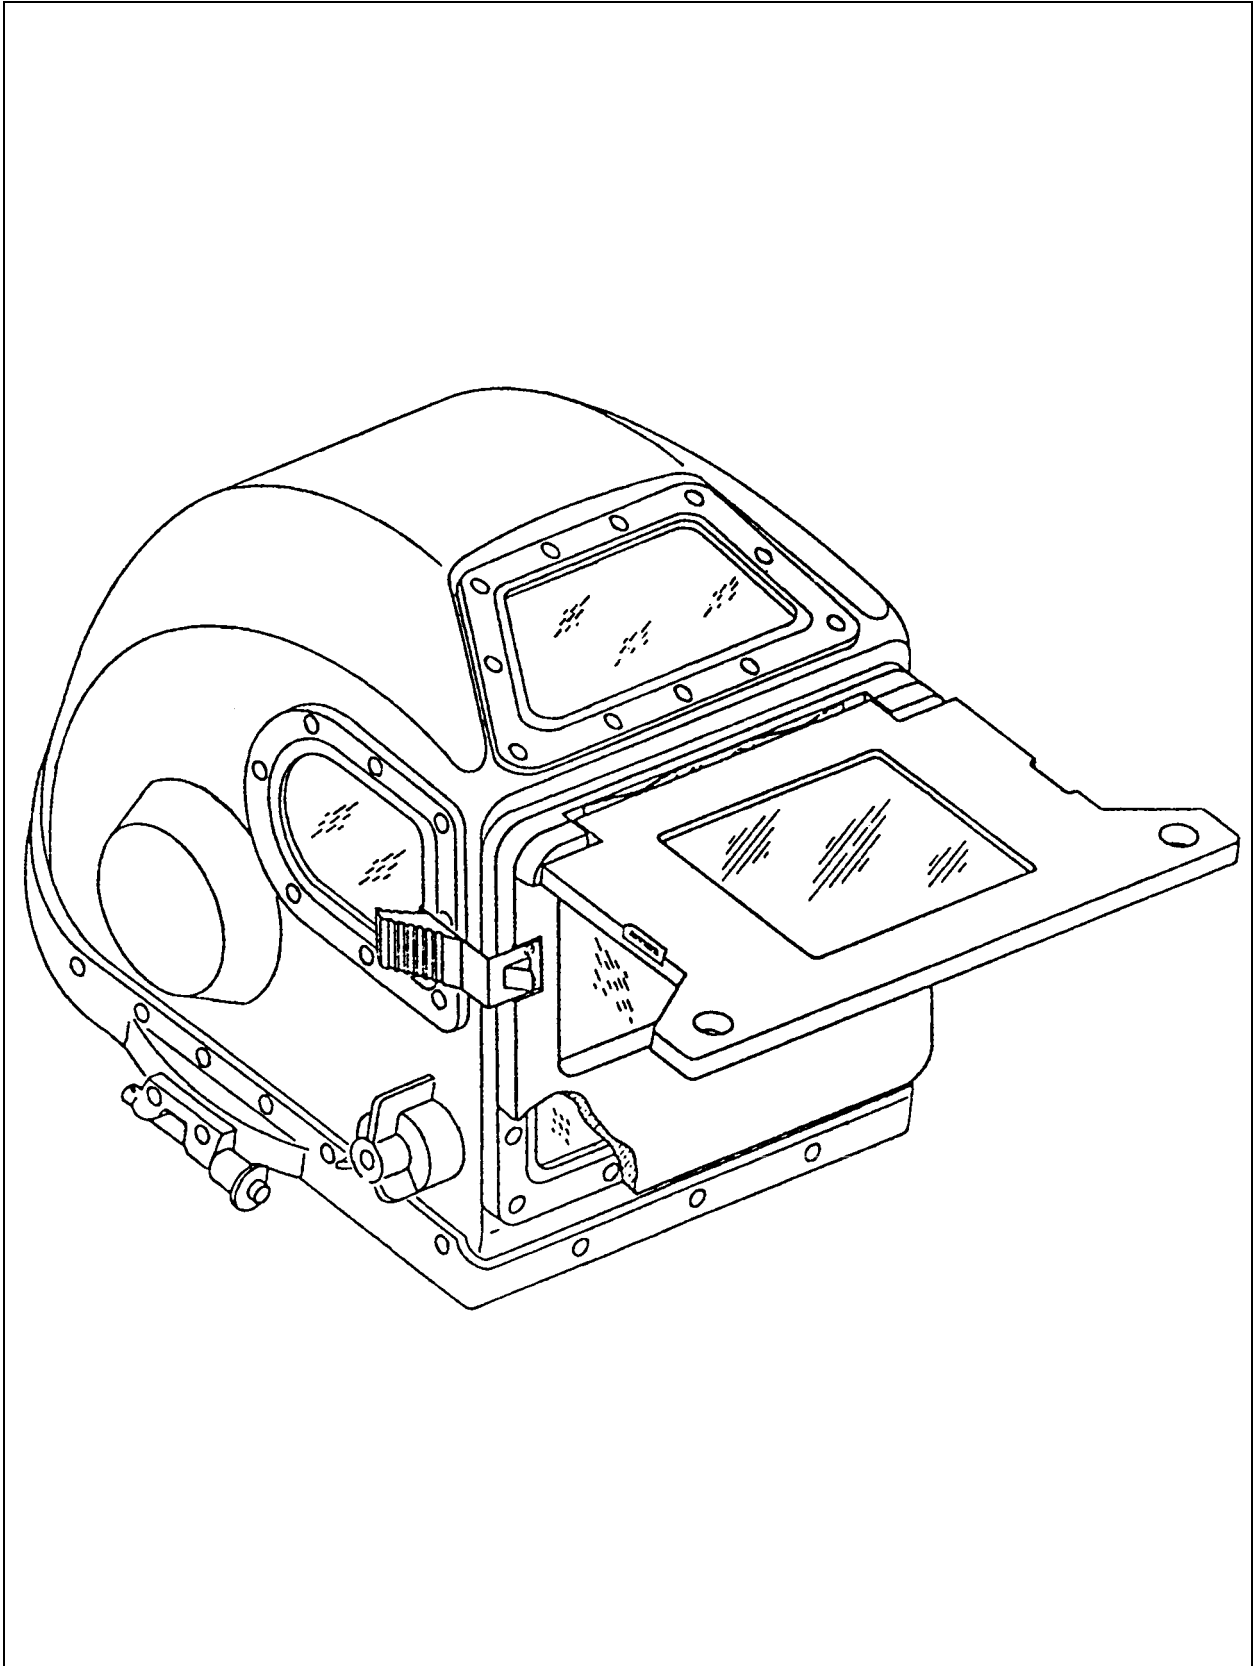

Figure 4-2. MK12 SSDS Welding Shield.
**4-2.2 Diving Equipment.** The standard Navy MK 1, MK 12 or Superlite-17 helmets will be used while conducting underwater cutting or welding operations. These helmets have wide fields of view and a welding shield can be attached, as shown in Figures 4-2, 4-3 and 4-4.